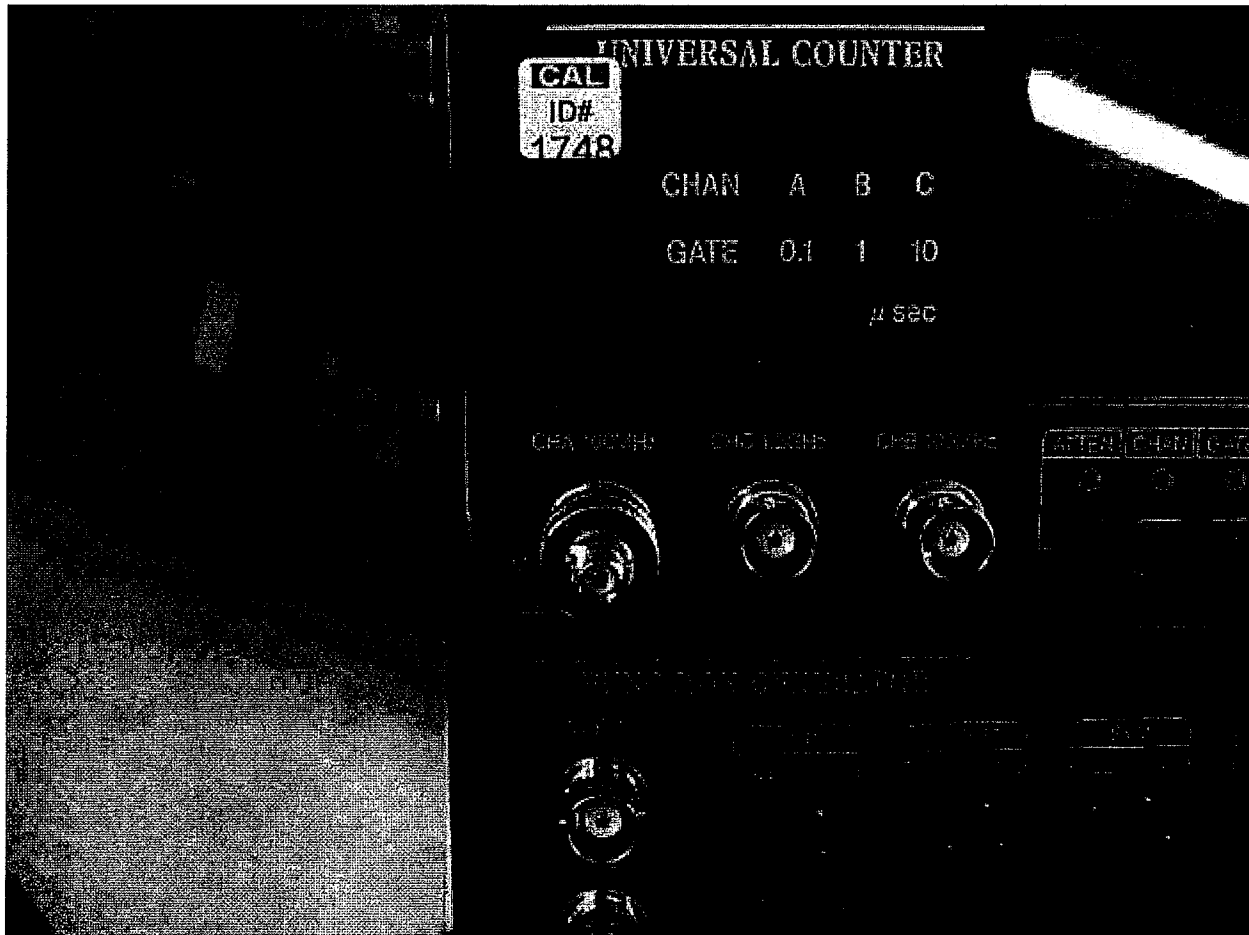

Figure 20
- 9.9.1 Turn power off to DUT and remove connection from Spectrum Analyzer Input and connect to Frequency Counter CH A 100 MHz Input. See Figure 20 below for details. Make sure that CHAN A is selected and GATE is at 1 usec.